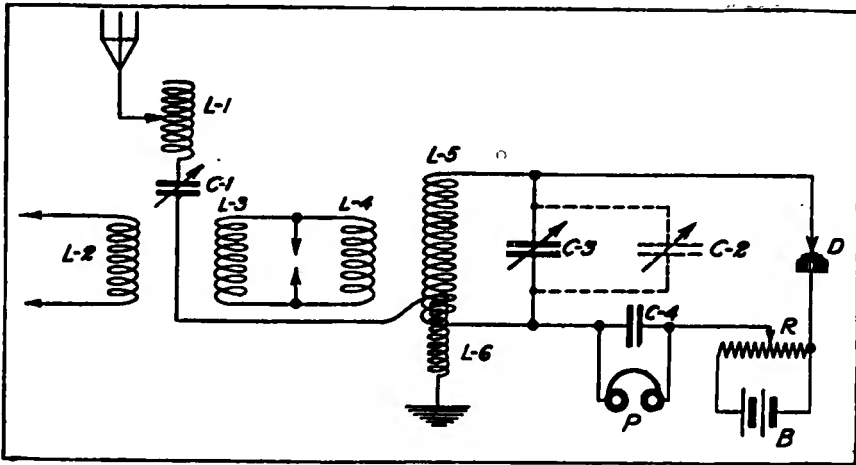
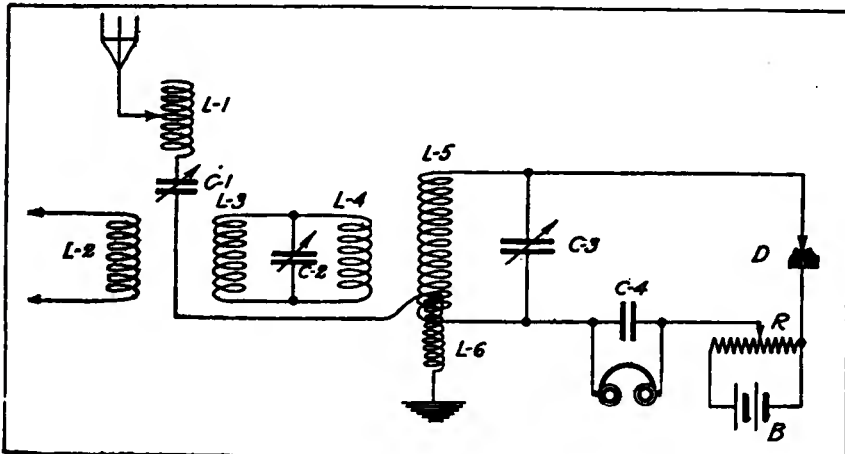

Figure 138.
Figure 139.
- (2) Figure 138. To show the connections of the "stdbi" long wave adjustment of the type 107a tuner.
- (3) Figure 139. To show the connections of the "stdbi" short wave adjustment of the type 107a tuner.
In figure 138 are shown the connections for the "stdbi" long wave adjustment. The primary coil L-6 is placed in close inductive relation to the secondary winding L-5, the primary coil L-2 and the coils L-3 and L-4 of the intermediate circuit being disconnected. The condenser which ordinarily shunts the intermediate circuit is now connected in shunt to the billi condenser C-3. This affords increased wave length adjustment.
In figure 139, the intermediate condenser C-2 is disconnected from C-3. Because of its capacity at the zero position on the scale it increases the wave length of the secondary circuit beyond the value desired. The tuner in this position is in proper adjustment for receiving **short waves with close coupling**.
With the "stdbi" long wave adjustment connections of figure 138 the primary winding L-2 is disconnected from the antenna circuit, and the secondary winding L-5 inductively coupled to L-6. L-6 is a fixed inductance wound tightly around the turns L-5 affording a very close coupling between the aerial and detector circuits.
The "stdbi" short wave circuits are shown in figure 139, the only difference between them and those of figure 138 being that the condenser C-2 is connected in shunt to the intermediate circuit. The condenser C-3 is employed to tune the secondary circuit to resonance. With this connection tuning is accomplished by setting the condenser switch at "tune," and the coupling knob (of the intermediate circuit) at zero; then carefully adjusting the billi condenser. Next connect in a few points of the aerial tuning inductance and vary the capacity of the short wave condenser until response is secured.